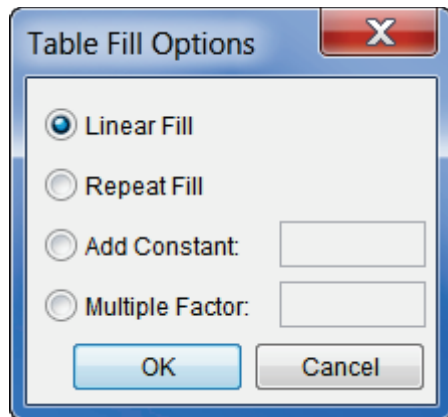

Figure 17.15 Table Fill Options Dialog Box
6. The user can fill cells that have been selected, from the shortcut menu click **Fill**, the **Table Fill Options** dialog box (Figure 17.15). The user has several options to choose from:
- **Repeat Fill** - when selecting the cells, for **Repeat Fill** (Figure 17.15), the user must select a row that contains the data that will be repeated in the other selected rows. Click **OK**, the **Table Fill Options** dialog box will close and the table will be filled with repeated data.
- **Add Constant** - when selecting the cells, for **Add Constant** (Figure 17.15), the user must select rows that contain data that the user wishes to increase by a constant value. The user will enter a value in the box next to **Add Constant**. Click **OK**, the **Table Fill Options** dialog box will close and the rows selected in table will be filled with data that has been increased by the constant value entered by the user.
- **Multiple Factor** - when selecting the cells, for **Multiple Factor** (Figure 17.15), the user must select rows that contain data that the user wishes to increase by a multiplier. The user will enter the multiplier in the box next to **Multiple Factor**. Click **OK**, the **Table Fill Options** dialog box will close and the rows selected in table will be filled with data that has been increased by the multiplier entered by the user.